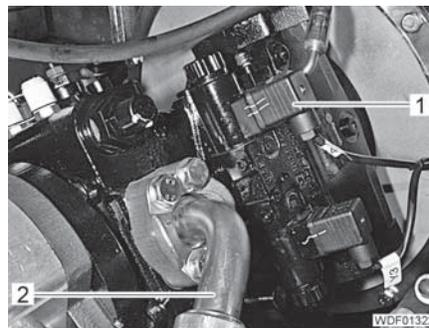

Fig. 445 Variable displacement pump
- Unscrew 1 screw on each of the connectors (Fig. 445,1).
- Undo 4 screws on each of the flange halves of the high pressure line (Fig. 445,2) and remove the flange halves.
- Put each flange half for securing the high pressure line (Fig. 445,2) into position and loosely screw in 2 screws with spring lock washers.
- Press high pressure line (Fig. 445,2) under each flange half and align so that the second flange half can be put into position.